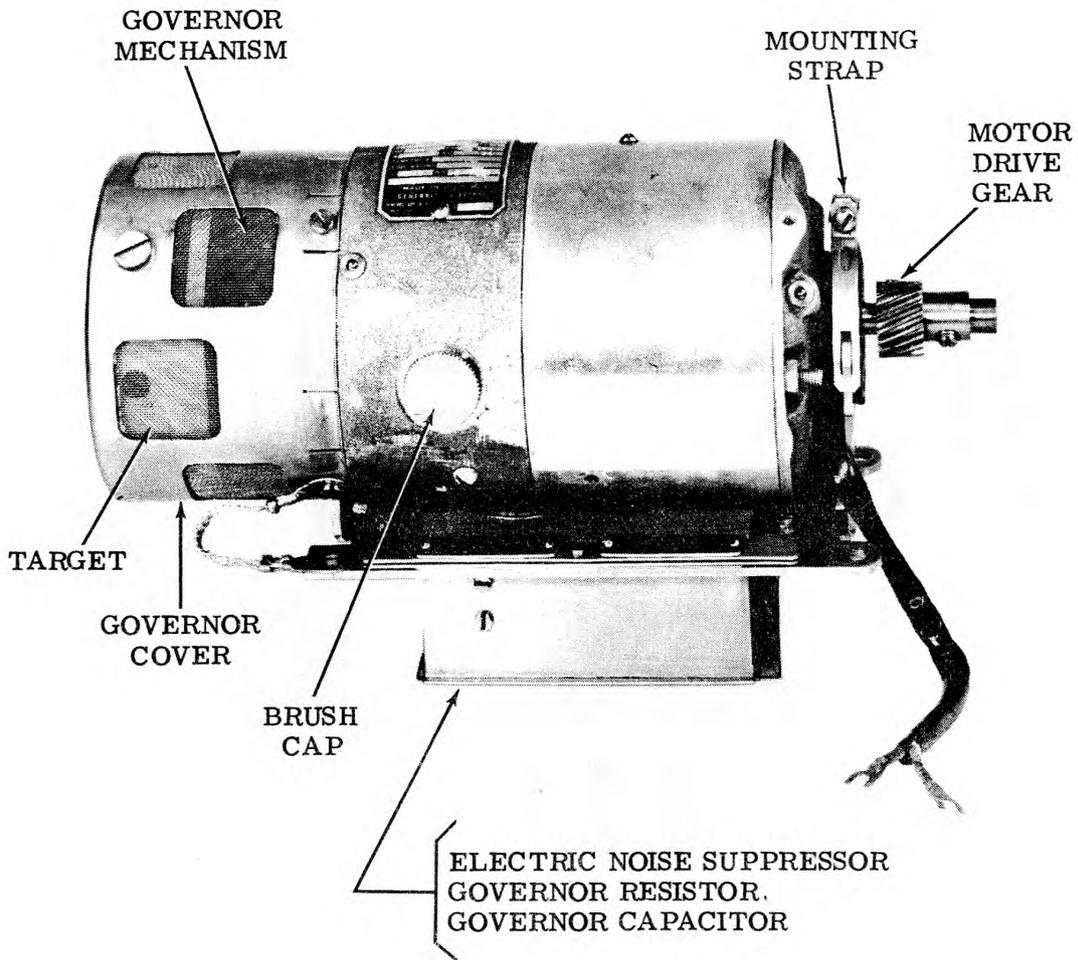

Figure 3 - Typical Series (Governed) Motor Unit
1.04 The series (governed) type motor units (Figure 3) are available in standard and heavy duty horsepower ratings and may be operated from regulated or unregulated, standard, single-phase power sources, or dc (direct current). The series (governed) type motor unit is also available for operation with 48 volts dc only. Specifications are given in Table III.
SERIES (GOVERNED) MOTOR UNITS (Fig. 3)